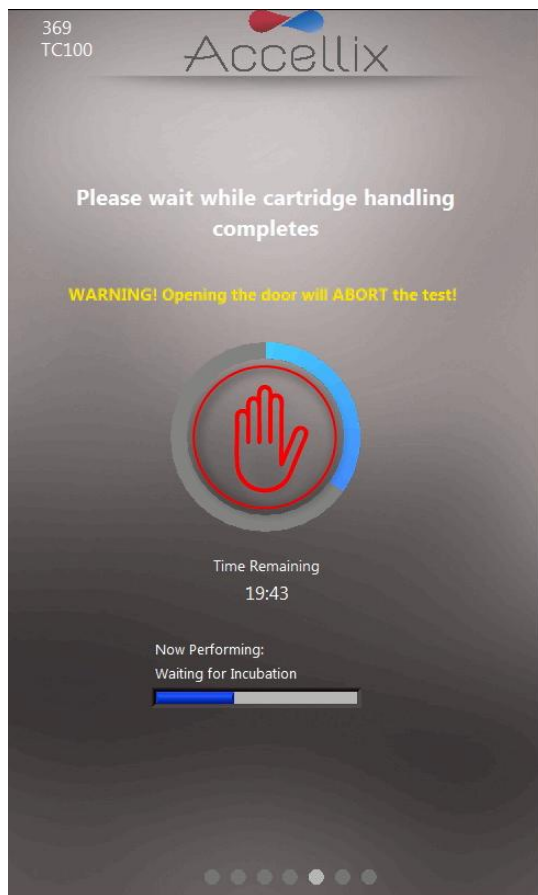

Figure 41: Progress Indicator and Time Remaining screen
Note: Some instruments may be configured to allow for a “Control Sample” to be run. In this case, an additional option appears above the Sample ID field (if the current assay can be run as a control sample) to allow for setting the run as a control sample run as illustrated in Figure 41:
11. The **Progress screen** (Figure 41) displays a progress indicator and a **Time Remaining** countdown timer. The user can monitor the test progress and approximate time remaining.
Note: To stop an assay that is in progress, the user can tap **Stop**, the red hand at the center of the progress indicator (see Figure 41). Refer to Section **11.3** Termination of an Assay Run.
The **Stop** icon may be used to terminate an assay run (Figure 41).